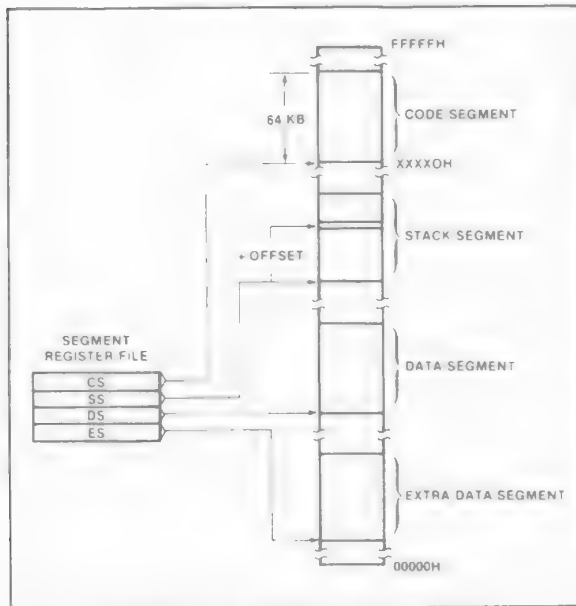

Figure 3a. Memory Organization
The processor provides a 20-bit address to memory which locates the byte being referenced. The memory is organized as a linear array of up to 1 million bytes, addressed as 00000(H) to FFFFF(H). The memory is logically divided into code, data, extra data, and stack segments of up to 64K bytes each, with each segment falling on 16-byte boundaries. (See Figure 3a.)